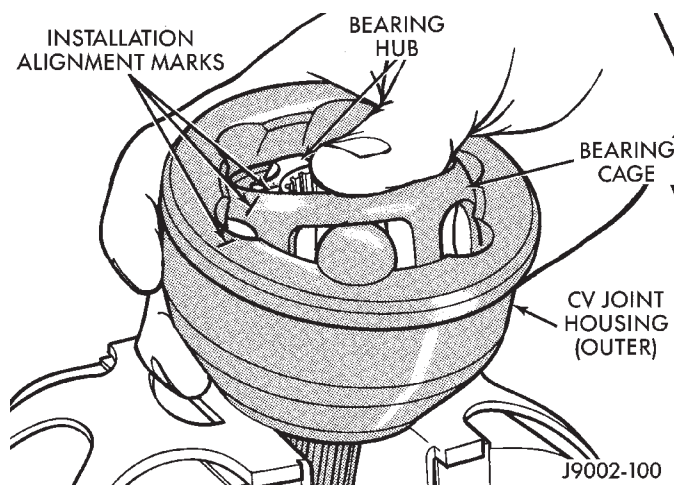

Fig. 11 Ball Access
(4) Remove the surplus lubricant. Apply installation alignment marks on the bearing hub, bearing cage and housing with dabs of paint (Fig. 11).
(1) Lightly apply lubricating oil to all joint components before assembling them.
(2) Align the bearing hub, cage and housing (Fig. 11) according to the alignment reference marks.